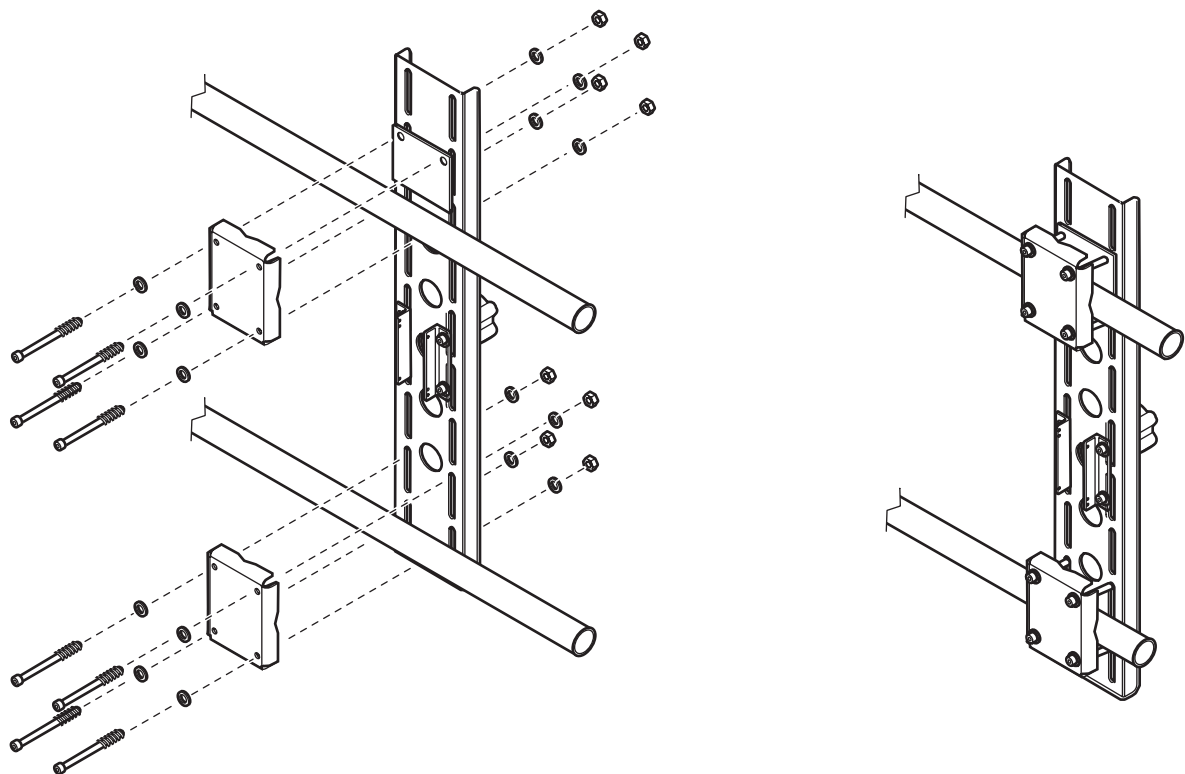

Figure 7 Installing the mounting rail
2. Loosely bolt the mounting rail and a clamping plate to the top railing using four screws (M8 x 120 mm) with washers for M8, spring washers for M8 and M8 nuts (Figure 7 on page 7). Do not tighten the screws until the entire rail mounting is aligned and adjusted for height.
3. Loosely bolt the mounting rail and the second clamping plate to the bottom railing using four screws (M8 x 120 mm) with washers for M8, spring washers for M8 and M8 nuts (Figure 7 on page 7).